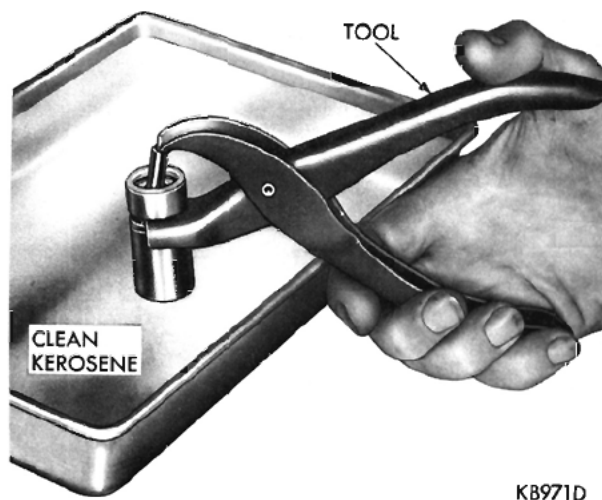

Fig. 83—Testing Tappet Using Tool C-3160
- (1) Fill a pan with clean kerosene.
- (2) Remove the cap from the plunger and completely submerge the tappet in an upright position.
- (3) Allow the tappet to fill with kerosene, remove the tappet, and replace the cap.
- (4) Hold the tappet in an upright position and insert the lower jaw of pliers, Tool C-3160, in the groove of the tappet body (Fig. 83).
- (5) Engage the jaw of the pliers with the top of the tappet plunger. Test the leakdown by compressing the pliers. If plunger collapses almost instantly as pressure is applied, disassemble the tappet, clean and test again.
- (6) If the tappet still does not operate satisfactorily after cleaning, install a new tappet assembly.